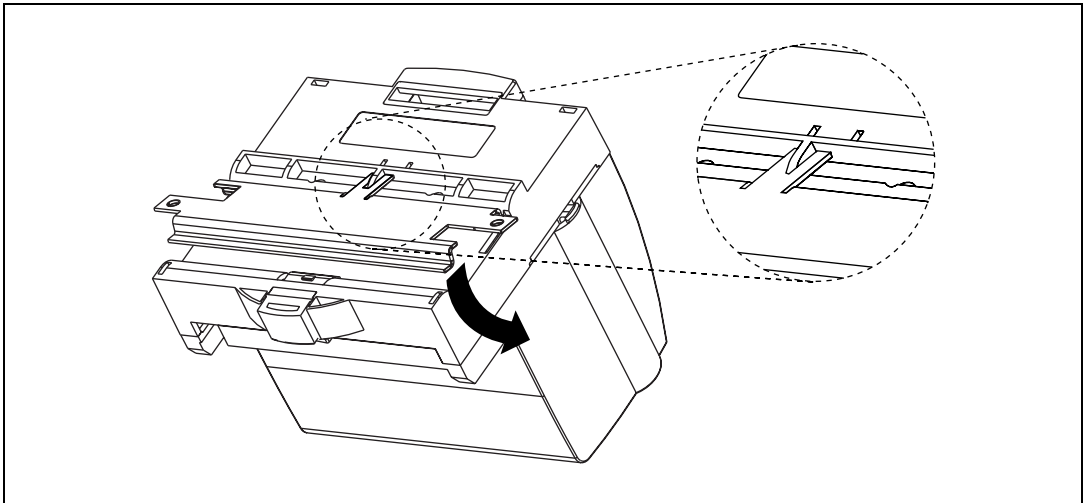

Figure 2-3. Installing the Network Panel Mount Accessory
2. Snap the panel mount accessory onto the module, as shown in Figure 2-3.